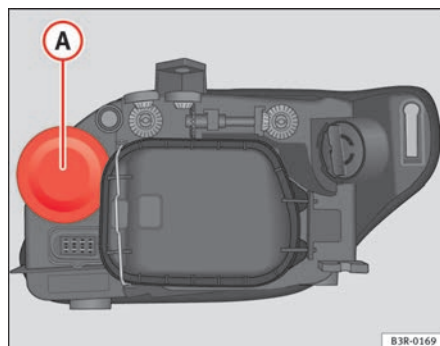

Fig. 203 Turn signal
- Pull the rubber cap ⇒ fig. 203 to remove it.